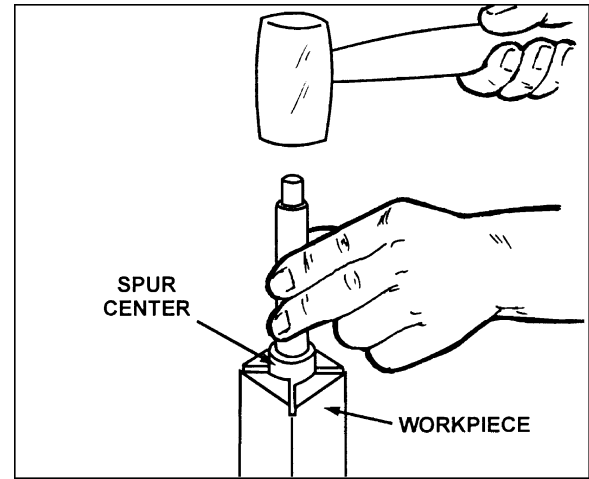

Figure 9-4
3. Drive the spur center about 1/4" into the workpiece, using a wood mallet or dead blow hammer as shown in Figure 9-4. Be careful that you do not split the workpiece.